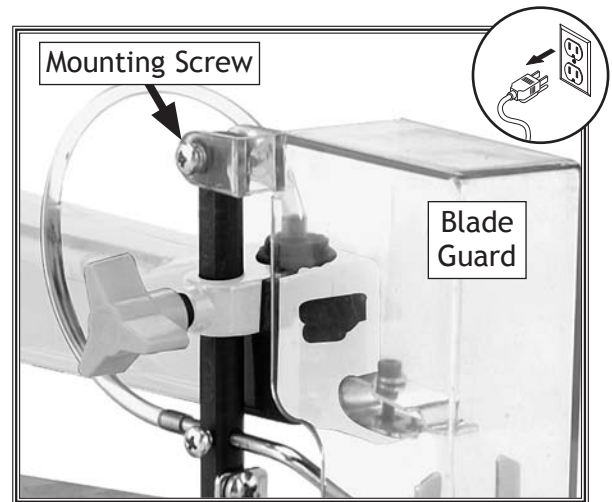

Figure 4. Blade guard properly installed.
2. Use the pre-installed Phillips head mounting screw, hex nut, and washers to install the blade guard onto the top of the hold-down shoe rod, as shown in **Figure 4**.